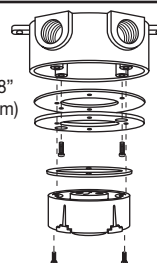

Figure 3
4. Position the glass globe gasket around the lampholder socket so that it rests on the bottom of the socket assembly (Figure 3).
5. Screw the lamp into the lampholder socket. Use a standard medium base incandescent lamp. (VAG-01-C and VAG-01-CS: 100 WATTS MAX, VAG-02-C: 200 WATTS MAX. BOTH ARE ALSO COMPATIBLE WITH MOST SELF-BALLASTED COMPACT FLUORESCENT LAMPS.) (Figure 3)